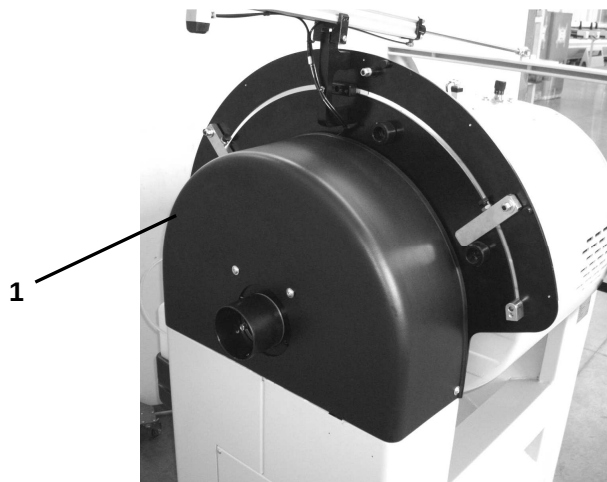

Fig. 09-06
- Remove the rear safety guard '1' - **Fig. 09-06**.
- Close the safety guard '1' - **Fig. 09-06**.